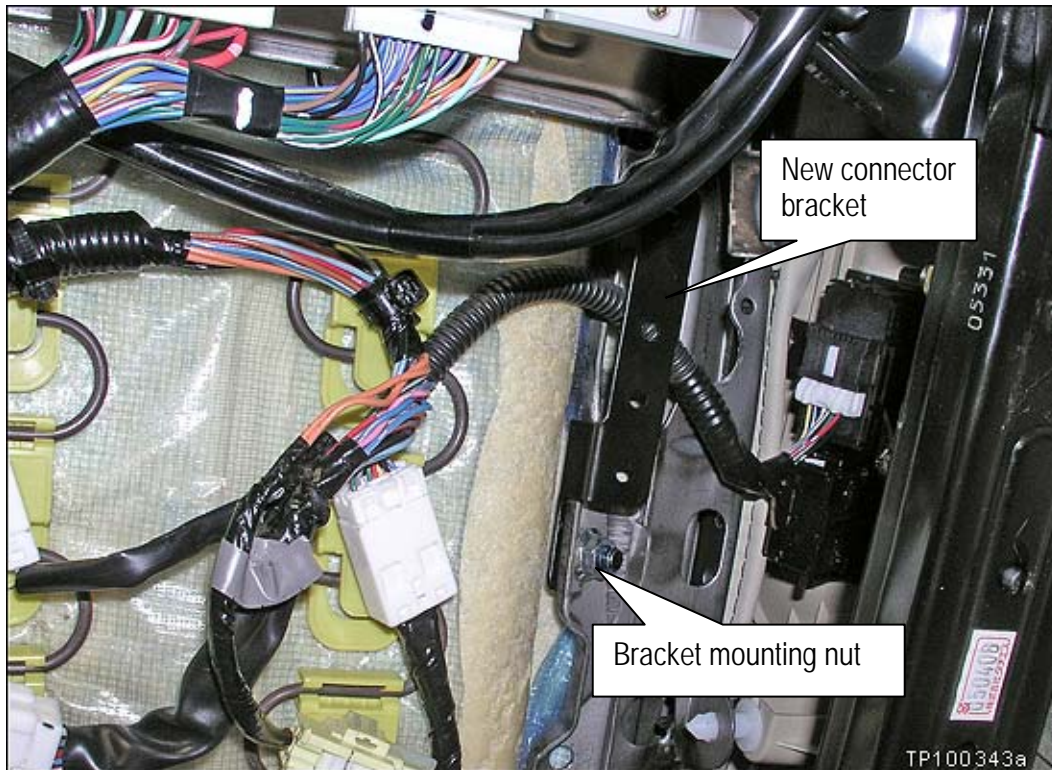

Figure 2
3. Install the new connector bracket as shown in Figure 2 and torque the nut: